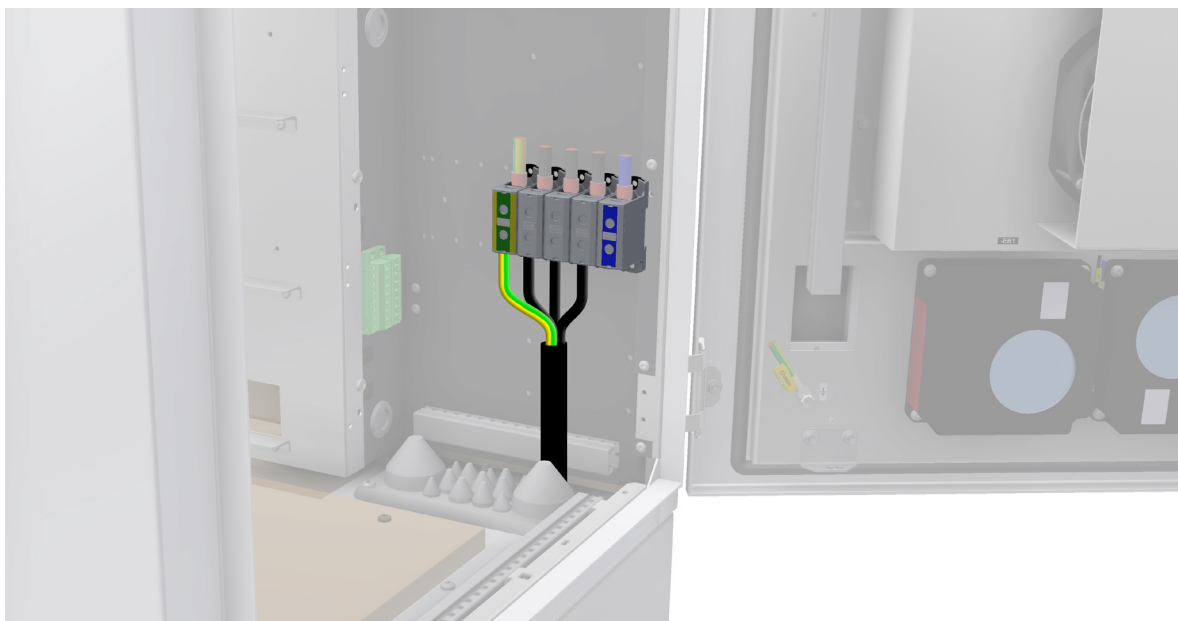

Figure 4.20 IT/TT (230Vac) network
- Connect phase wires (L1, L2, L3) to terminals X1 (see *Figure 4.20*). Use torque T2.